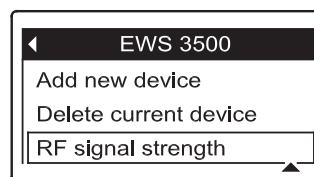

FIG. 105
2. Press the remote's SELECT (O) button to display the device menu.
3. Press the DOWN (▼) button to scroll through the menu options until **RF signal strength** is highlighted in a box (See Figure 105).